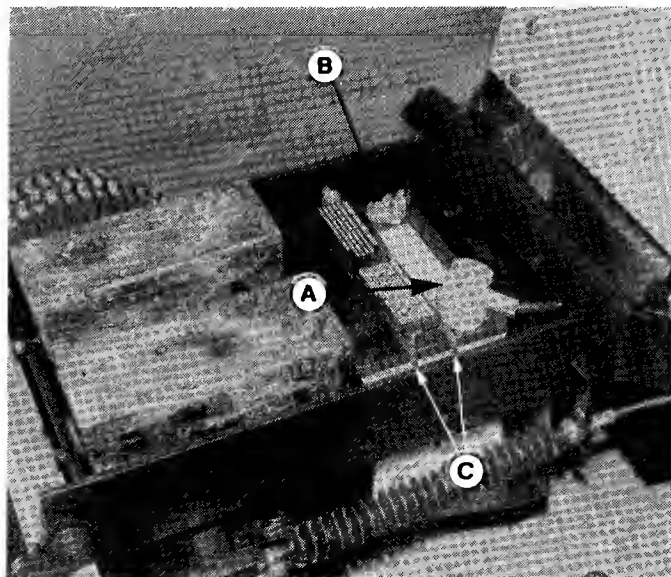

Figure 12. Battery
1. Disconnect the cables from the battery, negative cable first. A positive "+" sign is stamped on the battery next to the positive terminal. See figure 12.